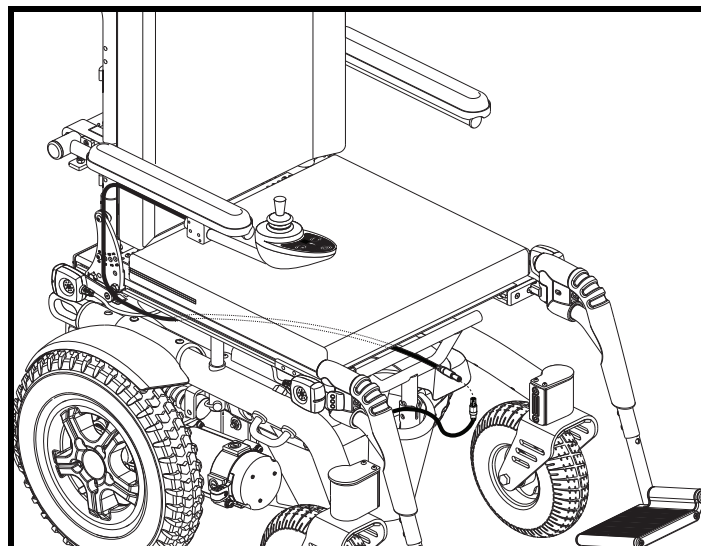

Figure 10. Controller Harness Routing
2. Route the controller harness to the front of the power base, ensuring the harness cannot be pinched in the seat hinge. See figure 10.
6. Route the controller harness to the front of the power base and reconnect the controller. See figure 10.